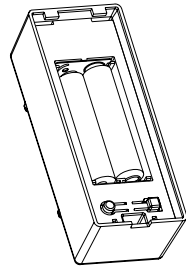

FIGURE 4
- Fit two 1.5V AAA batteries supplied to the battery compartment (FIGURE 4). Please note, the adoption of alkaline battery is highly recommended as it would last longer.